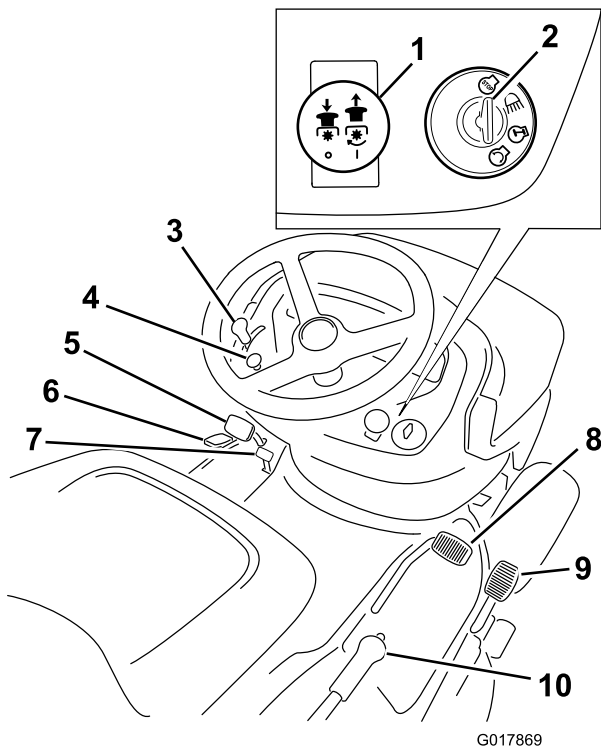

Figure 4
Become familiar with the controls (Figure 4) before you start the engine and operate the machine.
1. Push the brake pedal (Figure 4) down and hold it.
1. Push down on the brake pedal (Figure 4).
2. Pull the blade control (PTO) knob out to the Engaged position (Figure 4).
2. Push the blade control (PTO) knob into the Disengaged position (Figure 4).
4. Disengage the blades (PTO); refer to Figure 4.